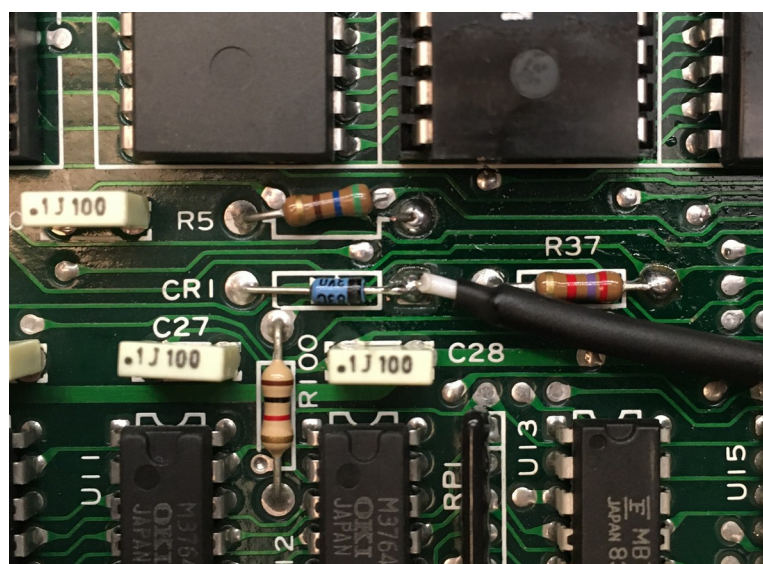

Figure 4: TOD Clock Connection
- Connect the TOD clock to the positive terminal of CR1 on the C64 motherboard (see Figure 4).